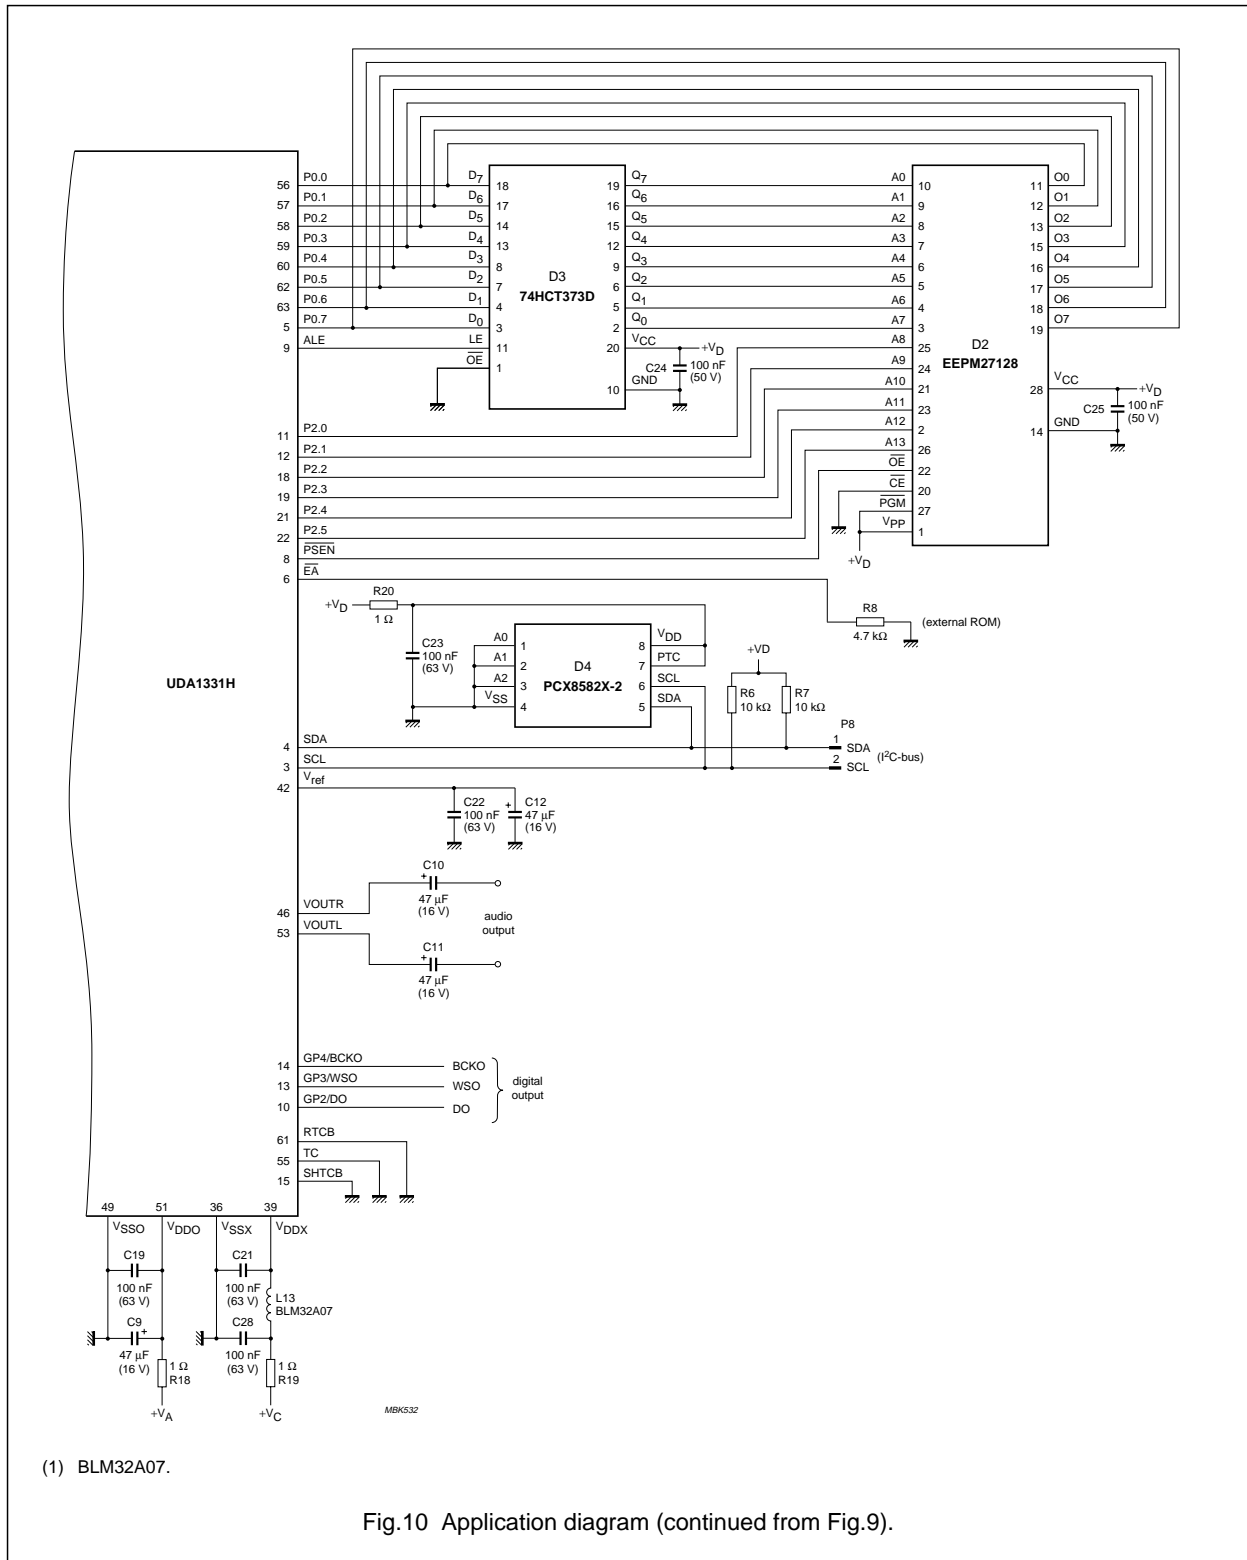

Fig.10 Application diagram (continued from Fig.9).
1. This value depends strongly on the application. The specified value is the typical value obtained using the application as given in Fig.10.